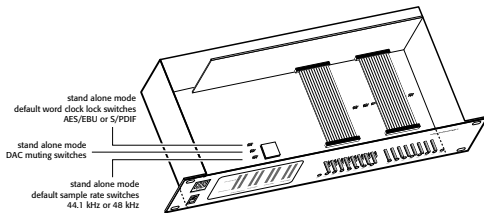

Figure 1. jumper switch location in the 888/24 I/O
- 5 Inside the left-front of 888/24 I/O’s chassis, near the large FPGA chip, is a set of three jumper switches, each with a removable cap. Each of these switches controls a different default function which is shown in Figure 1 and 2.
- 7 Place it in the position corresponding to the value that you desire. For a 44.1 kHz default sample rate, it should be placed over the right two prongs. For a 48 kHz default sample rate, it should be placed over the left two prongs. Refer to Figure 1 and 2 for details.
☞ Refer to Figure 1 and 2 for details on jumper switches and their default positions.
- 5 Inside the left-front of 888/24 I/O's chassis, near the large FPGA chip, is a set of three jumper switches, each with a removable cap. Each of these switches controls a different default function which is shown in Figure 1 and 2.
7 Place it in the position corresponding to the value that you desire. For an AES/EBU word clock lock port, it should be placed over the right two prongs. For a S/PDIF word clock lock port, it should be placed over the left two prongs. Refer to Figure 1 and 2 for details.
5 Inside the left-front of 888/24 I/O's chassis, near the large FPGA chip, is a set of three jumper switches, each with a removable cap. Each of these switches controls a different default function as shown in Figure 1 and 2.
7 Place it in the position corresponding to the value that you desire. To mute the DACs, it should be placed over the left two prongs. To unmute the DACs (as in normal operation), it should be placed over the right two prongs. Refer to Figure 1 and 2 for details.